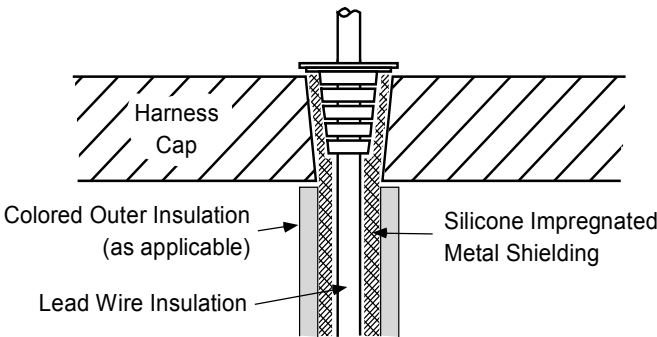

Figure 3.4.ID
- 2. Apply pressure with T-109 until ferrule flange seats tightly against distributor cap (See Figure 3.4.ID).